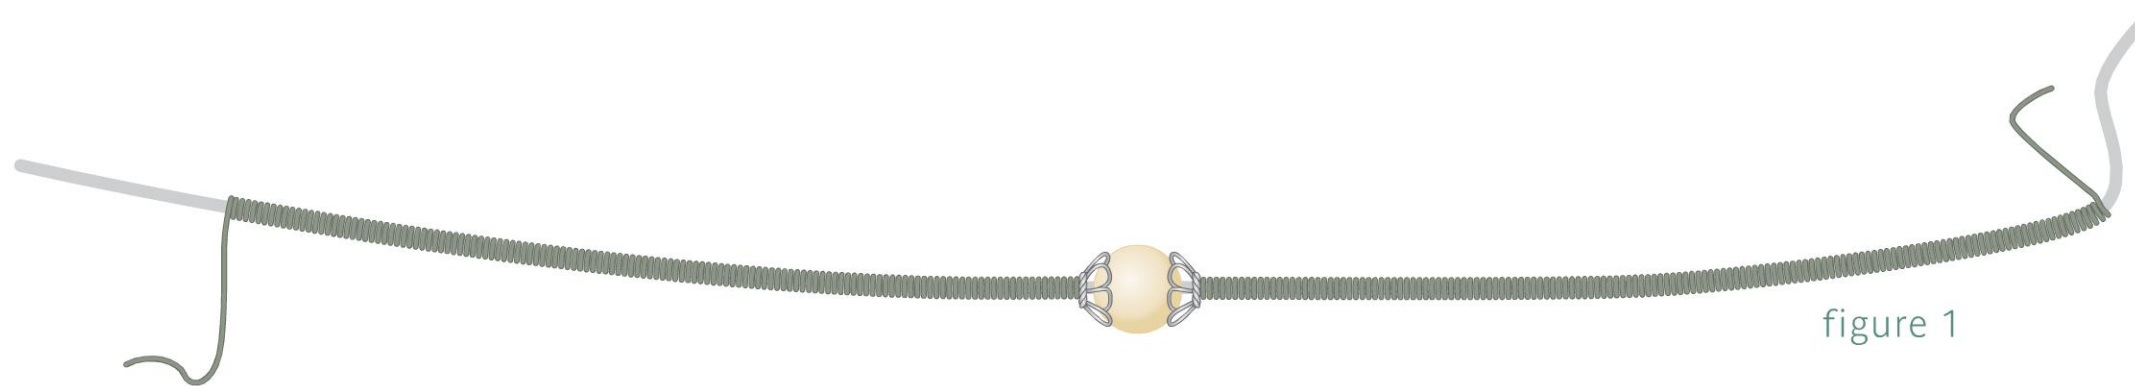

figure 1
- 4 Repeat Step 2, coiling on the second half of the 18-gauge wire (Figure 1).